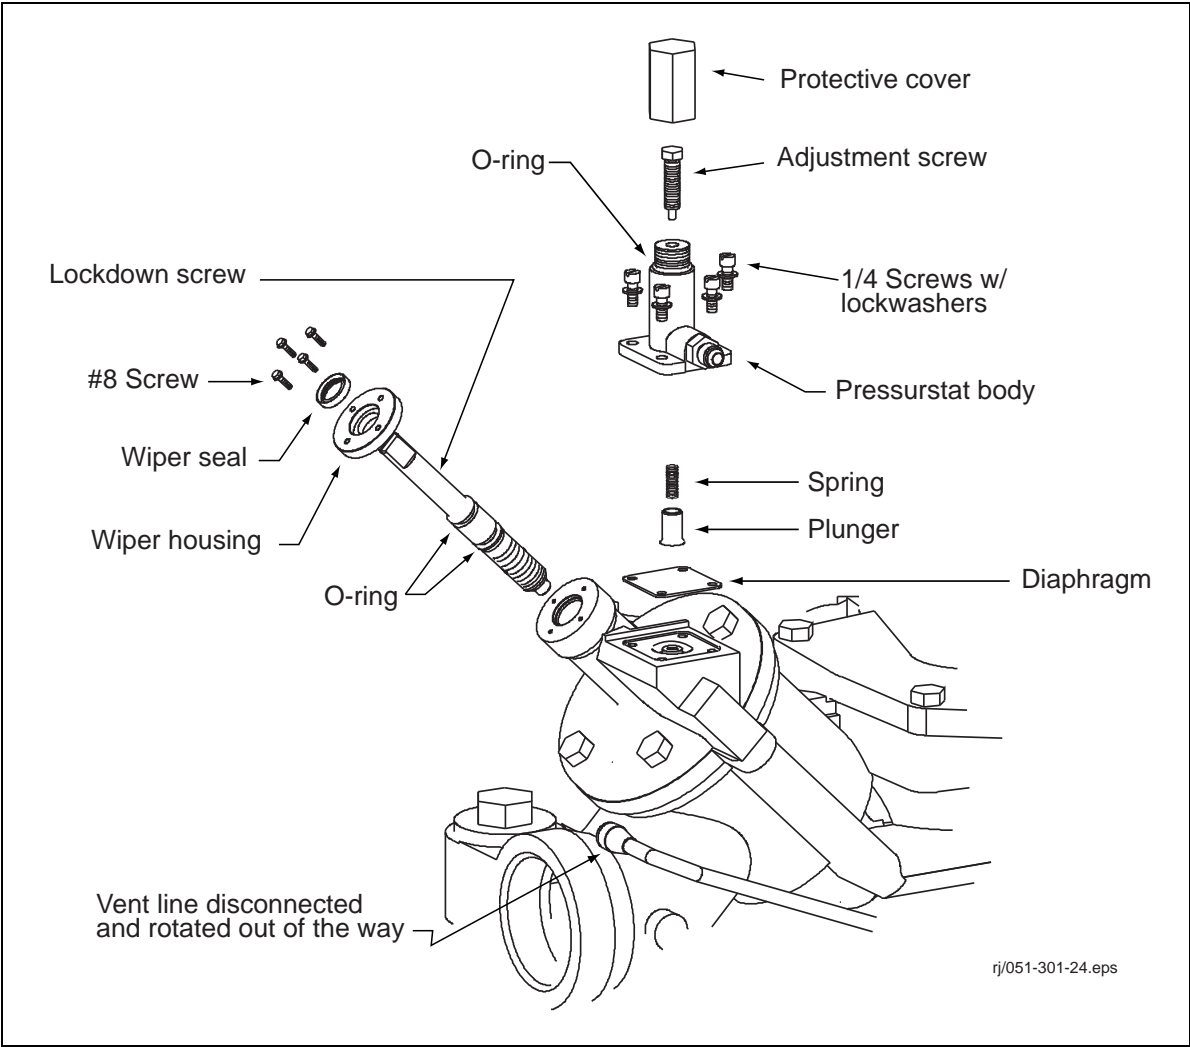

Figure 17. Pressurstat and Check Valve Lock-Down Screw Assembly
2. Lock down screw removal (see Figure 17).
- c. Using a flat piece of metal at least 1/2 inch larger than the OD of the wiper, carefully drive the new wiper into the wiper housing, orienting the wiper as shown in Figure 17.